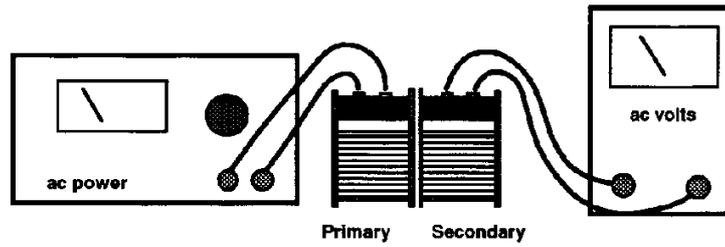

Figure 17.1: Induction Proceed by Passing Magnetic Field Between the Two Coils
1. Set up the coils and core as shown in Figure 17.1. The coil to the left will be referred to as the primary coil and the one to the right will be the secondary coil. Note that we are putting in an alternating current to the primary at one voltage level, and reading the output at the secondary.